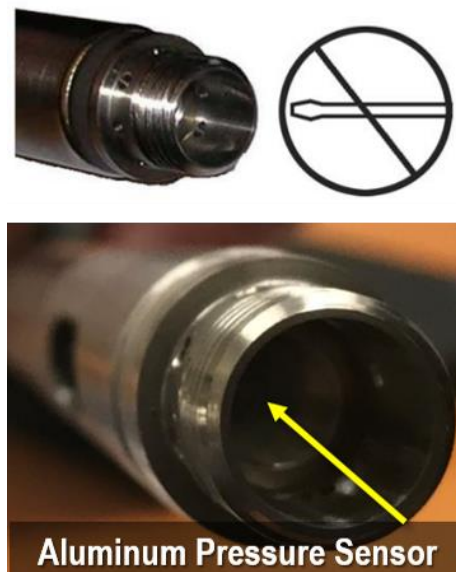

Figure 6. Sensitive Pressure Sensor Diaphragm (Level TROLL 500 without Nose Cone) [ER \[03\]](#)
3. If necessary, use a cotton swab to **gently** clean the sensor. **DO NOT SHOVE OR PUSH CLEANING UTENSILS OR MATERIALS INTO THE SENSOR (Figure 6).** The Pressure sensor is delicate and easily susceptible to damages from cleanings.